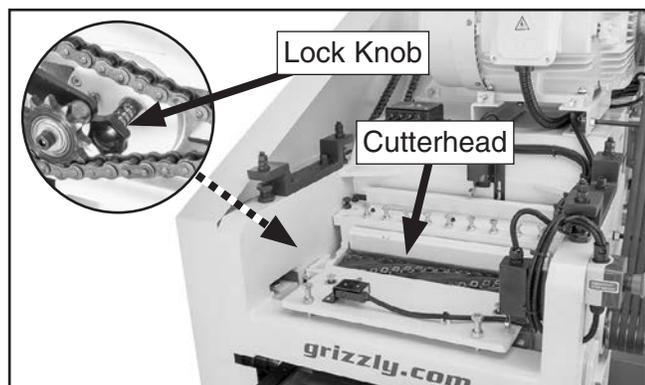

Figure 54. Upper cutterhead dust hood removed.
3. Remove upper cutterhead dust hood (see **Figure 54**).
4. Rotate pulley as needed to make inserts accessible for removal. Tighten cutterhead lock knob (see **Figure 54**) to secure cutterhead while cleaning, rotating, and replacing inserts.